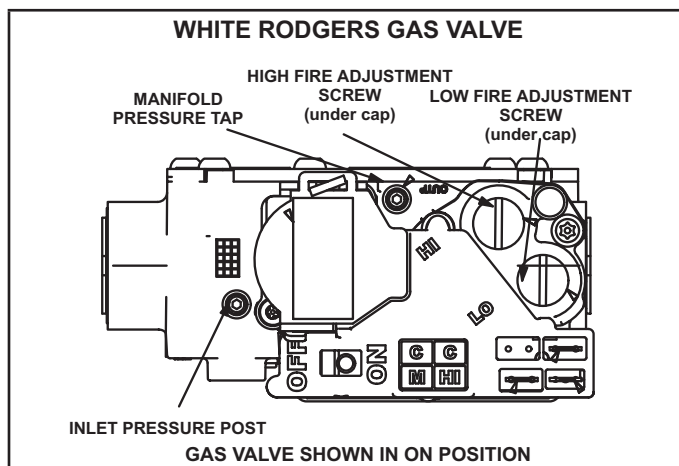

FIGURE 18
The two-stage gas valve (FIGURE 18) is internally redundant to assure safety shut-off. If the gas valve must be replaced, the same type valve must be used. 24VAC terminals and ON/OFF switch are located on the valve. A wire harness connects the terminals from the gas valve to the electronic ignition control. 24V applied to the terminals energizes the valve.
- 6 - Turn switch on gas valve to OFF. Do not force. See FIGURE 18.
- 8 - Move switch on gas valve to ON. Do not force. See FIGURE 18.
- 1 - Connect test gauge to manifold pressure post (FIGURE 18) on gas valve.
- 4 - If necessary, make adjustments. Figure 18 show location of high fire and low fire adjustment screw.